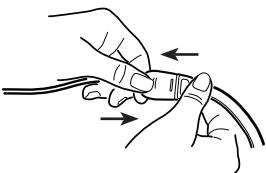

Fig. 5b
2. Refer to **Fig. 5b**. Insert the sensor tab into the patient cable until there is a tactile or audible click of connection. Gently tug on the connectors to ensure a positive contact. Tape may be used to secure the cable to the patient for ease of movement.